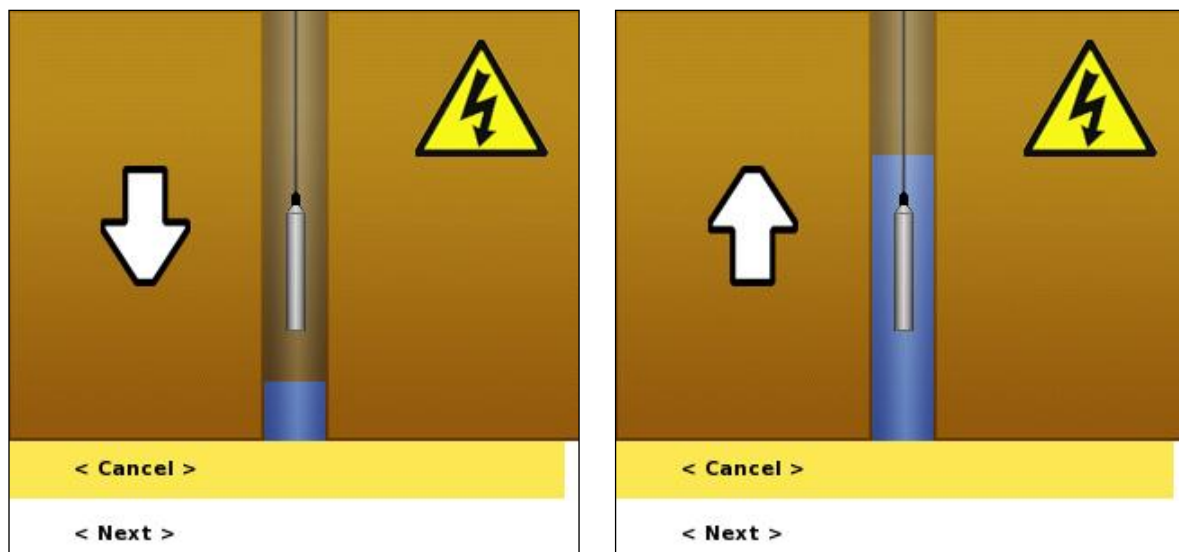

Figure 81 Level Indicator dialog
- A level indicator dialog is shown (Figure 81). The picture on the dialog will change automatically depending on if water is detected or not, respectively showing that the probe should be lowered or raised to more accurately find the water level.